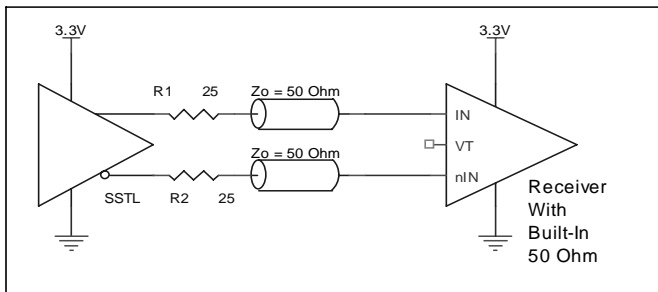

FIGURE 5E. HiPerClockS IN/nIN INPUT WITH BUILT-IN 50Ω DRIVEN BY AN SSTL DRIVER
- Power Dissipation at built-in terminations: Assume the input is driven by a 3.3V SSTL driver as shown in Figure 5E and estimated approximately 1.75V drop across IN and nIN.